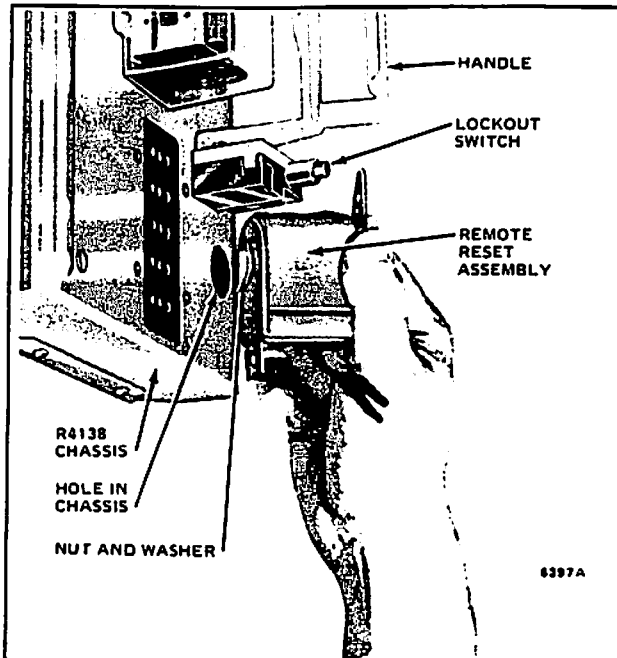

FIG. 18—INSTALLING A REMOTE RESET ASSEMBLY.
INSTALLING AN OPTIONAL REMOTE RESET ASSEMBLY, PART NO. 118811B (FIGS. 18, 19, AND 20)
2. Insert the nut and washer on the remote reset assembly into the hole in the chases just below the lockout switch on the R4138 (Fig. 18).